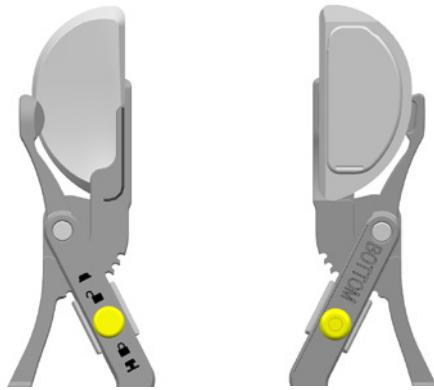

Figure 59
- 6 Once the curved arm contacts the insert, continue to close the handle for one (1) additional click from the locking mechanism (Figure 59). Examine the stability by gently pulling on the insert.